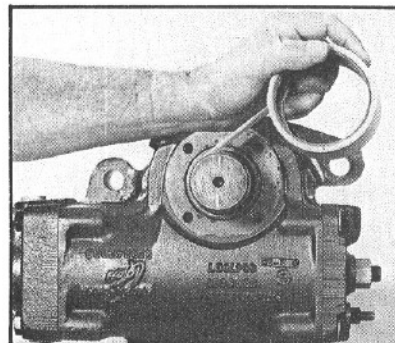

Figure 38
6. Tape the serrations and bolt groove of the sector shaft (50) with one layer of masking tape (FIG. 38).